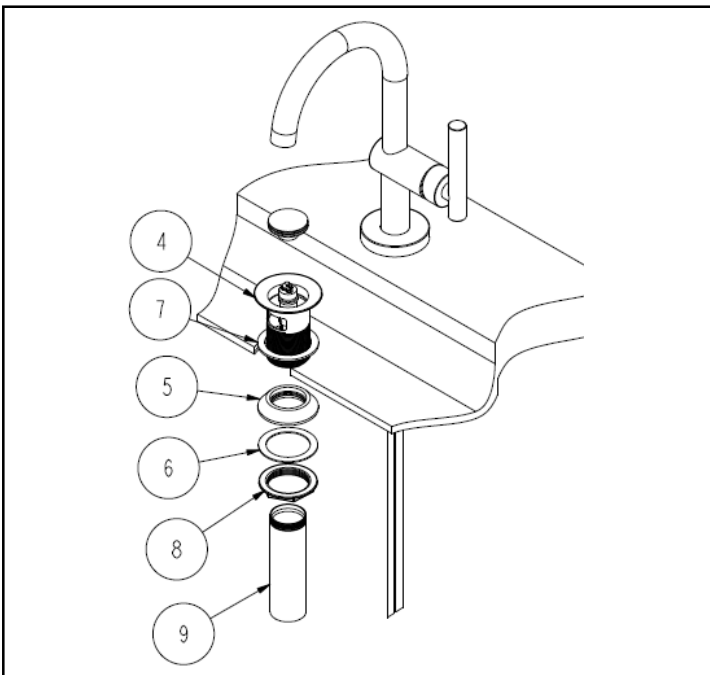

Figure 3
3. Drain assembly installation. Remove drain FLANGE (4) from TAILPIECE (9). Place FLAT WASHER (7) and then FLANGE (4) through sink drain opening. (Clear silicone may be used in place of white washer.) From bottom side of sink, place cone shaped rubber WASHER (5) onto FLANGE (4) and slide up against sink bottom. Note: Cone portion of WASHER (5) to face upward. Next slide on clear WASHER (6) and secure with flange NUT (8). Place NUT (8) & tighten to FLANGE (4). See Figure 3.